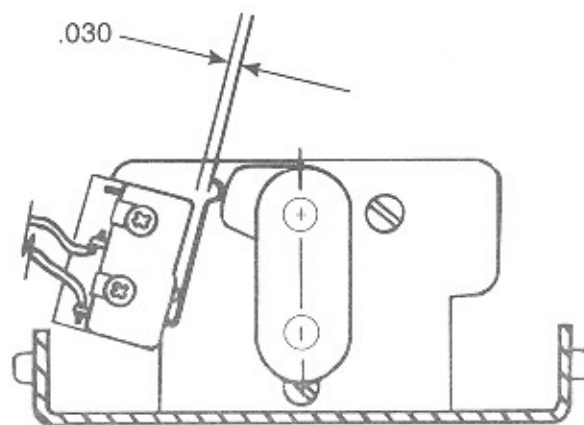

Figure 4-7. Stacker Home Switch Adjustment
Check for a gap of $1/32$ (.030 inch feeler gauge) between the stacker switch arm and the stacker switch body as shown in *Figure 4-7*.
1. Loosen the two adjusting screws as shown in *Figure 4-7*.